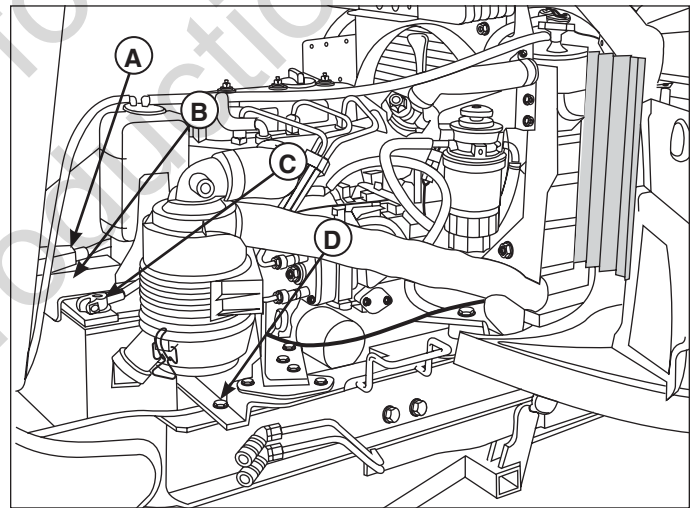

Figure 20. Battery - Diesel Models
1. Disconnect the cables from the battery, negative cable first (C, Figure 20).
2. Remove the battery clamp (B) and battery. On diesel models the battery clamp is secured with bolts to both frame rails (D).
5. Reinstall the battery in the battery compartment, and secure with the battery clamp (B).
6. Reattach the battery cables, positive cable first (A).